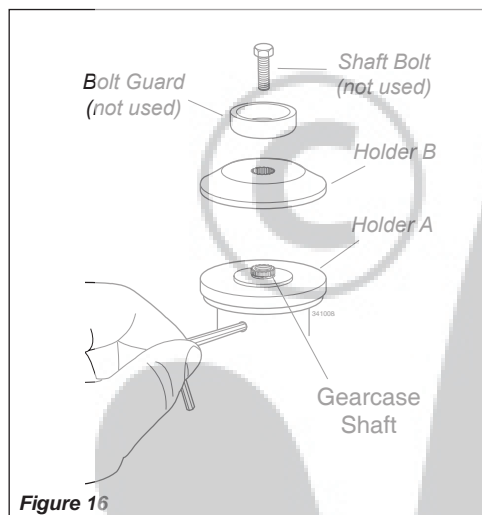

Figure 16
1. With the gearcase output shaft facing up, rotate the gearshaft and Holder A until the hole in Holder A aligns with the matching hole in the gearcase flange, and then lock the holder to the gearcase by inserting the long end of the hex wrench through both holes. See Figure 16.
2. Using the combination spark plug/screwdriver wrench, remove the shaft bolt, bolt guard and Holder B. (The bolt guard and shaft bolt are not used with a trimmer head). See Figure 16.